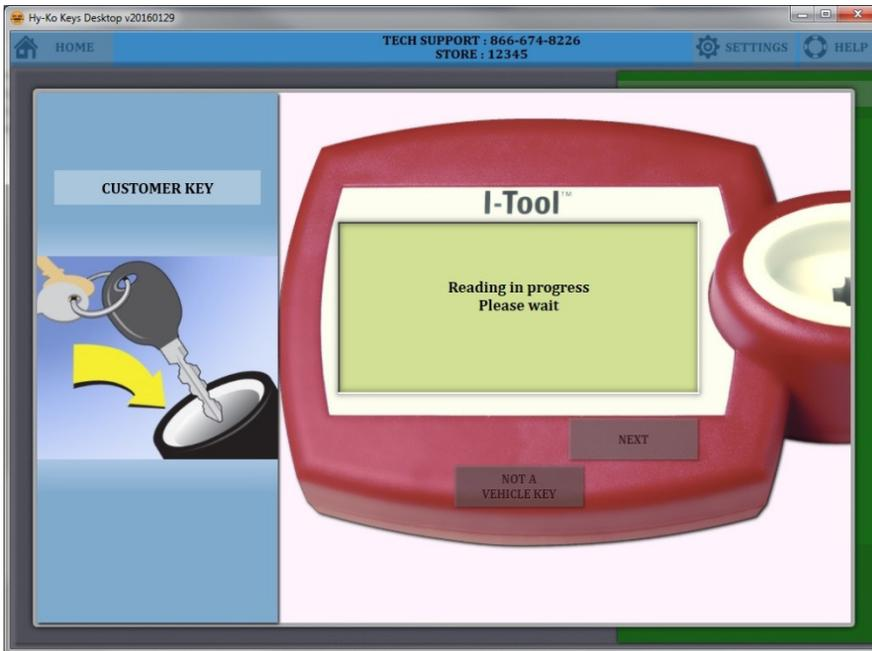

fig. 77
- The I-Tool will read the customer's key (see fig. 77). You can see the progress on the picture of the I-Tool on the software.